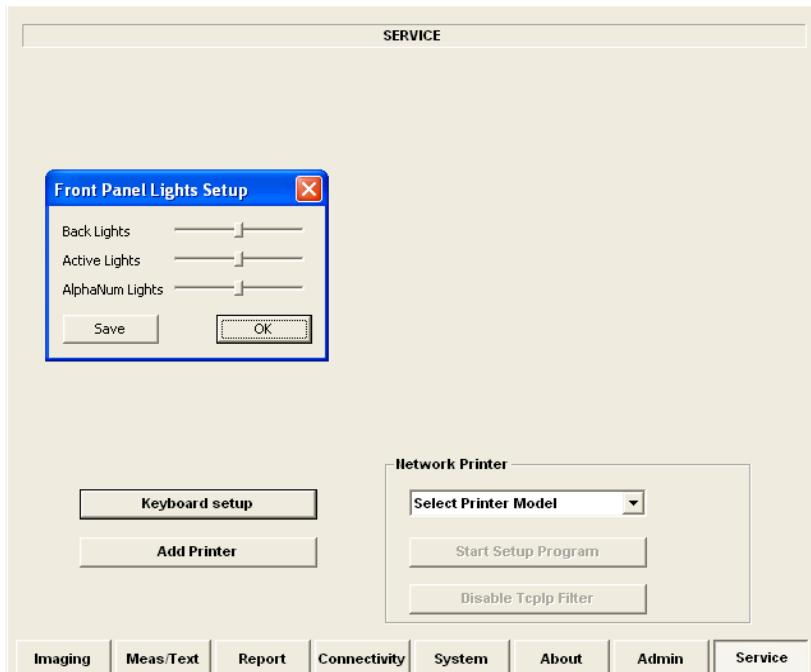

Figure 3-36 Service Screen (Example)
- 2.) Select **SERVICE** to view the Service Screen, see Figure 3-36 below.